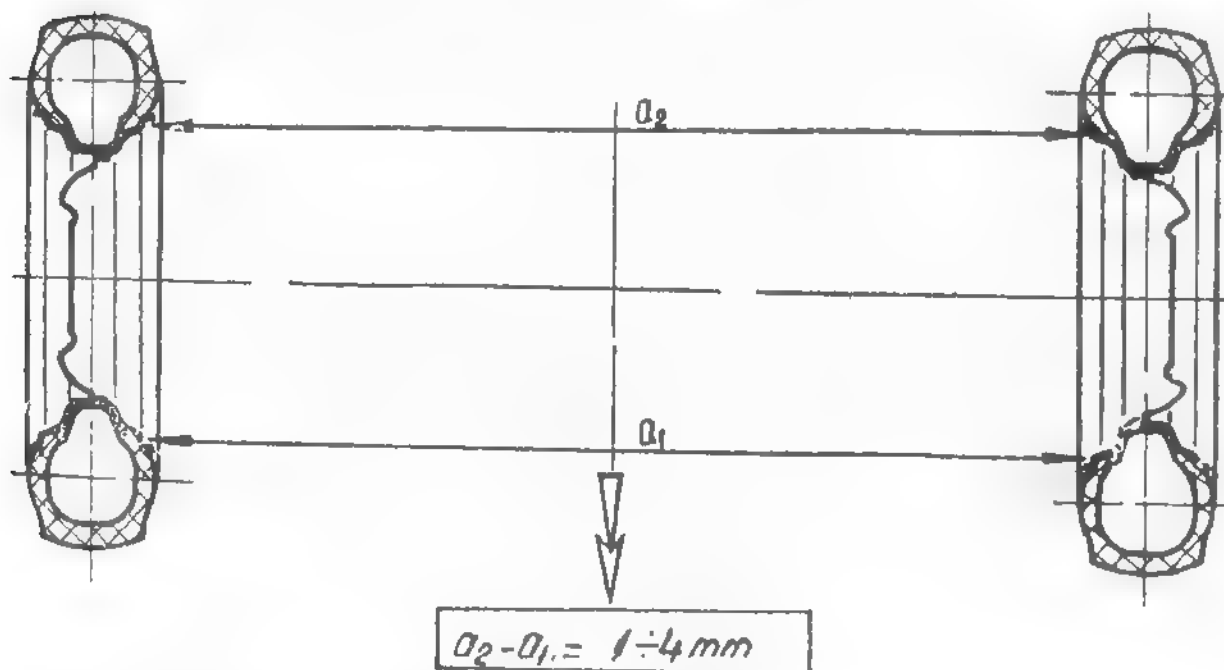

Fig. 2.48. MEASURING FRONT WHEEL TOE-IN.
- Measure the distance between wheel rims, as shown in the fig. 2.48, performing both measurements in horizontal plane.